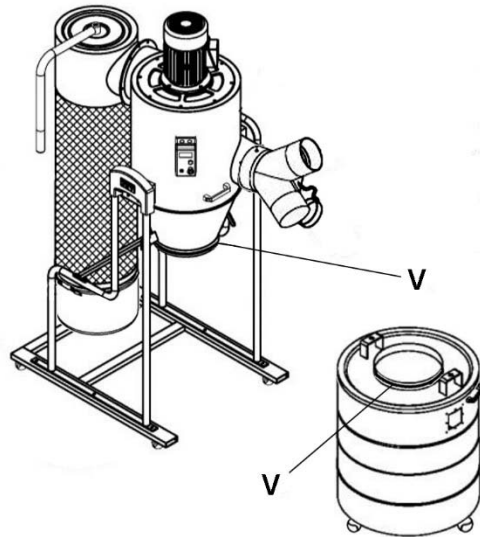

Figure 11
15. Apply foam tape (V) around funnel just above its bottom edge. See Figure 11. The foam tape should completely encircle the funnel.
16. Apply foam tape (V) around outside lip of drum opening. The foam should completely encircle the lip.